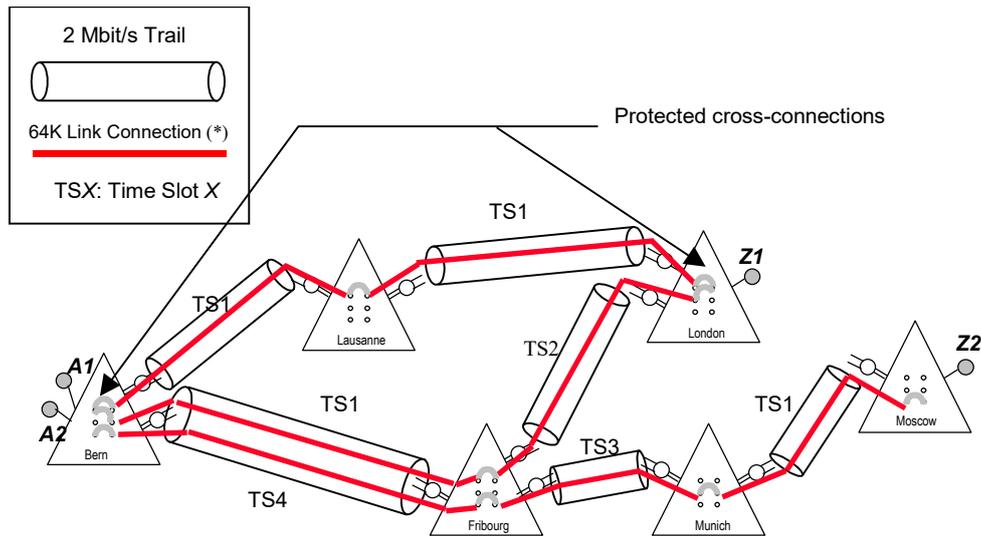

Figure 25: TE representation
- In the Figure 25: "TE representation" (on page 25) example, the FOXMAN-UN NP found two P0\_nc Circuits: